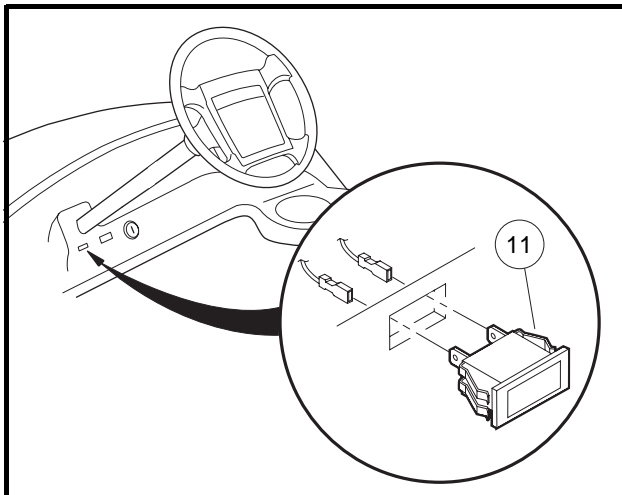

Figure 12-3 Battery Warning Light
4. Press the two retaining tabs (11) and remove the light from the center dash (**Figure 12-3, Page 12-3**).